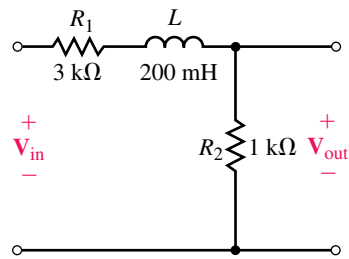

FIGURE 22-49
36. Repeat Problem 35 for the circuit of Figure 22-49.